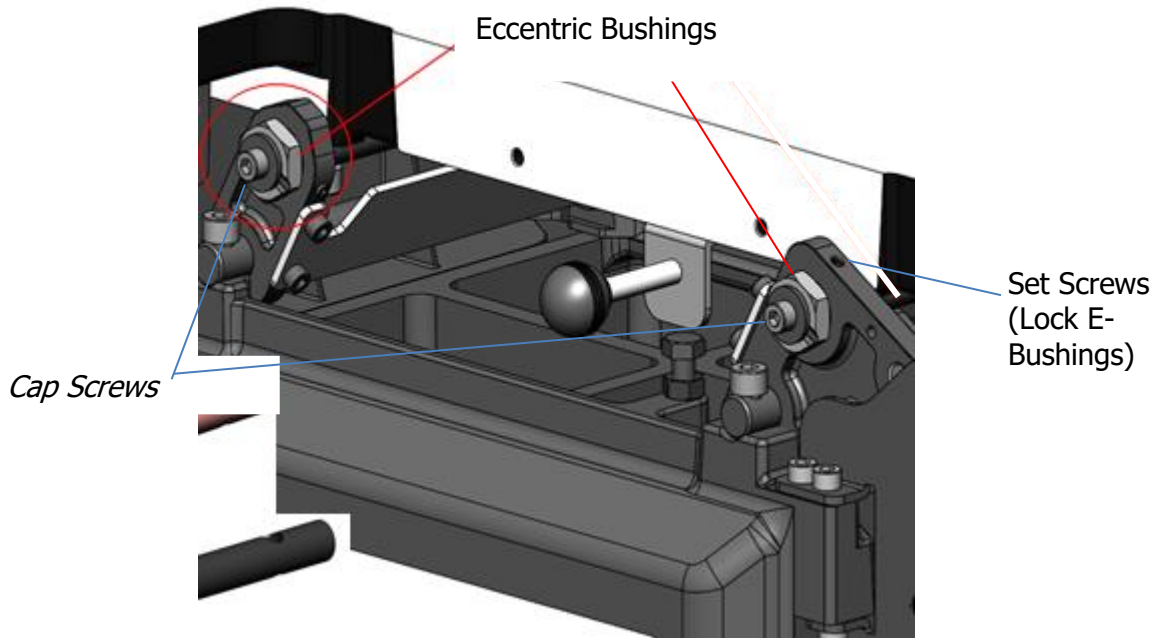
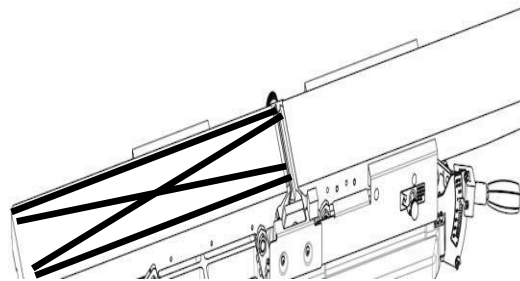

Fig 45: Eccentric Bushings, Cap Screws & Set Screws
Figure 46: Checking table
STEP 6: Remove infeed table depth stop release knob and infeed table cover, loosen set screws and place straight edge across infeed and outfeed tables as in **FIG. 45**, and adjust eccentric bushings under infeed table as STEP 4 for outfeed table.
STEP 3: Loosen set screws as shown in FIG. 45.
STEP 4: Place straight edge to all the positions shown in **FIG. 46** and loosen set screw(s) adjust the eccentric bushings, as in **FIG. 45**, until straight edge slightly touches the cutterhead insert knife (at top-dead-center) at each position.
STEP 5: After verifying the parallelism on the outfeed table, make sure the eccentric collars are seated snugly into its bracket, and tighten cap screws with washers and then tighten set screws into eccentric bushings (Fig. 45).